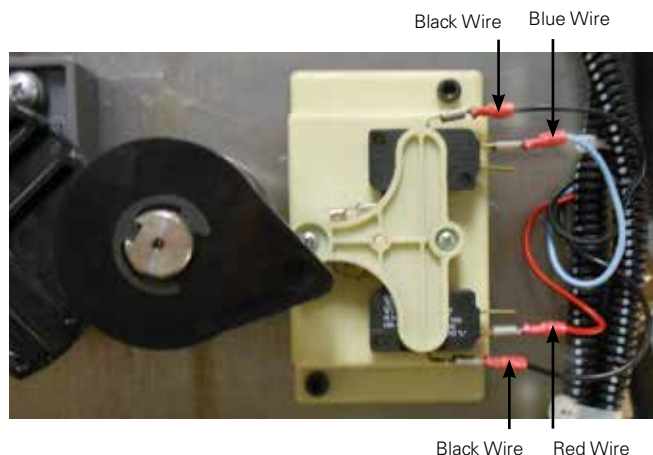

Figure 4. A fully installed holding switch on QD8 tap-changer.
4. Install the new holding switch using the two 9/64" Allen-head screws provided in the kit. The holding-switch actuator should be positioned toward the pinion cam on the tap-changer. See Figure 4 of a fully installed holding switch on a molded-polymer-style QD8 Quik-Drive tap-changer.